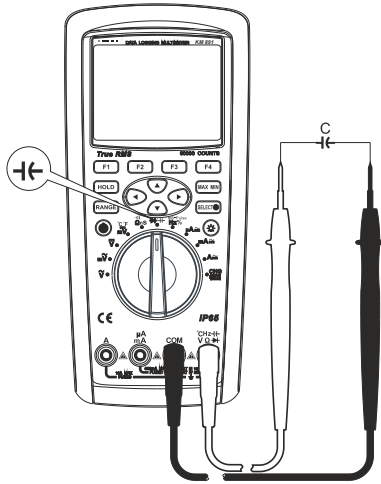

Figure 9
- 2) Set the rotary switch to the measurement $\text{M}\leftarrow$, press the key SELECT to select capacitance measurement. Connect the test leads to both ends of the measured capacitance as shown in Figure 9.